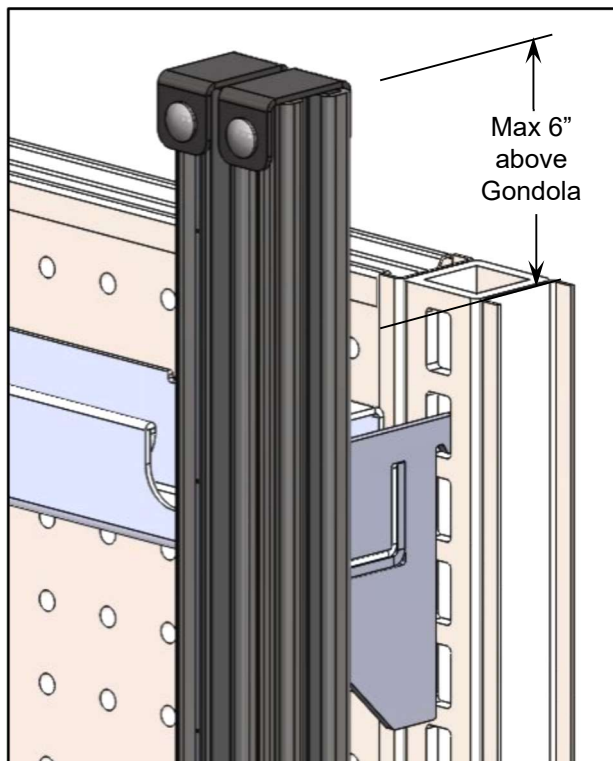

Figure 14
*Alternate installation: If required by the Plan-O-Gram (POG) and if approved by the store manager, the Upright Assembly may extend up to 6" above the top of the Gondola (See Figure 14).*